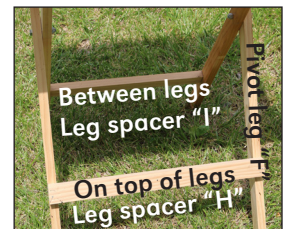

Figure 5
- 7) Add pivot leg spacer "H" to lower pivot leg "F" on opposite side of movement to allow rabbit stand to fold up. See Fig. 5 & 6.